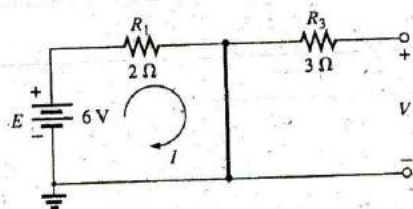

FIG. 6.59
Solution: The redrawn network appears in Fig. 6.59. The current through the $3\ \Omega$ resistor is zero due to the open circuit, causing all the current I to pass through the jumper. Since $V_{3\Omega} = IR = (0)R = 0$ V, the voltage V is directly across the short, and